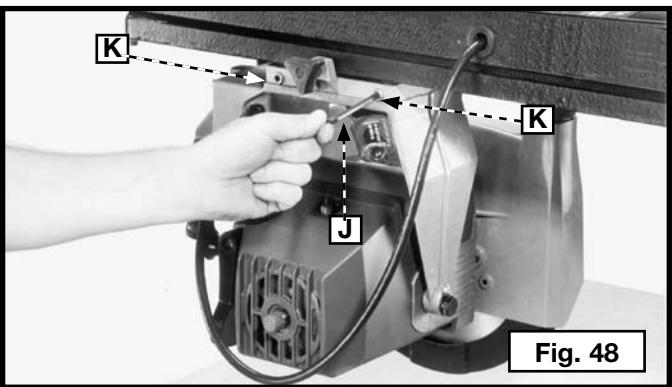

Fig. 48
4. Use a 3/16" hex wrench (J) Fig. 48 to turn the adjustment screws (K) Fig. 48 to remove all "play."
**CAUTION:** Do not overtighten the adjustment screws (K). This can damage the bearings.
**CAUTION:** Do not loosen the adjustment screws (K) more than 1/2 turn. The cuttinghead may fall from the track arm.